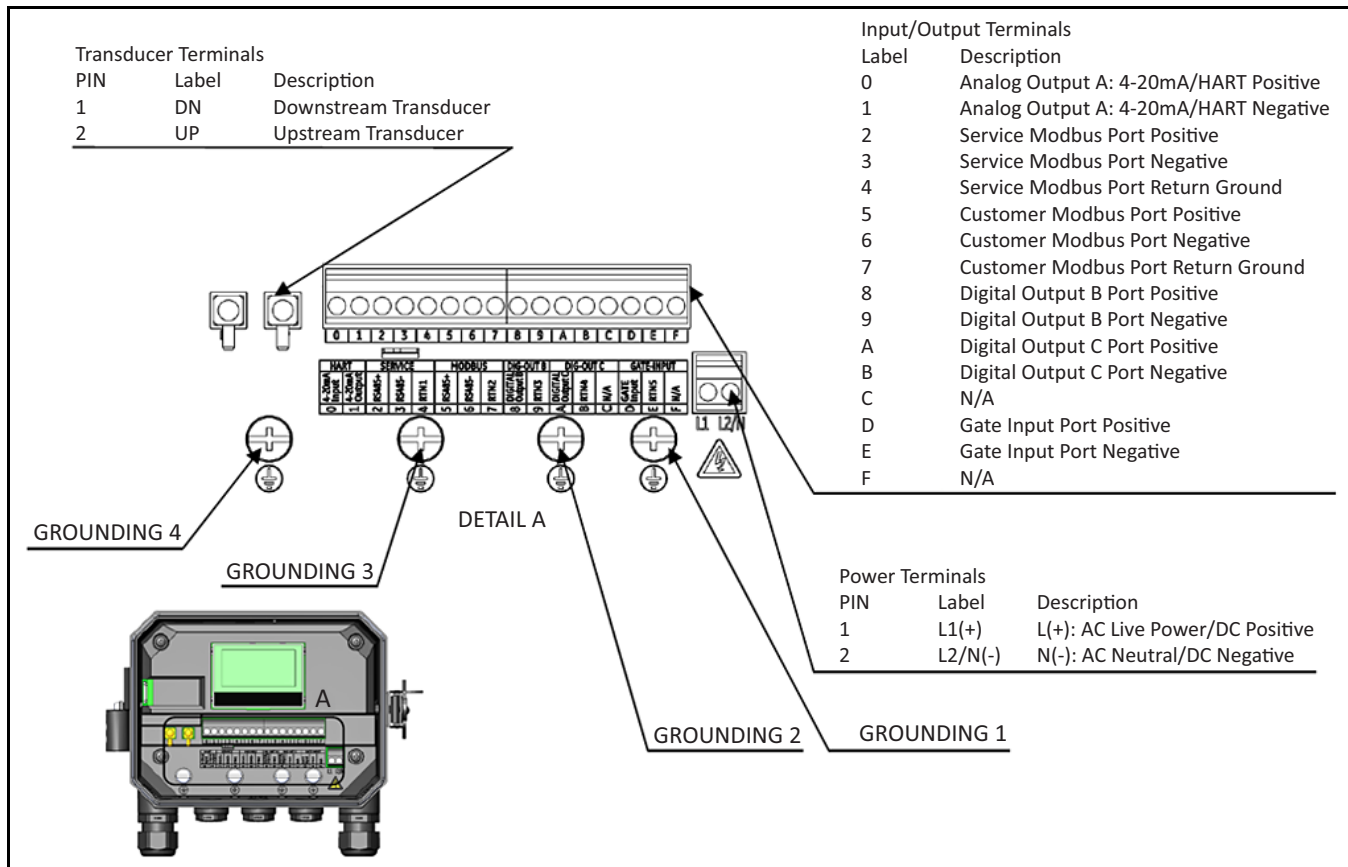
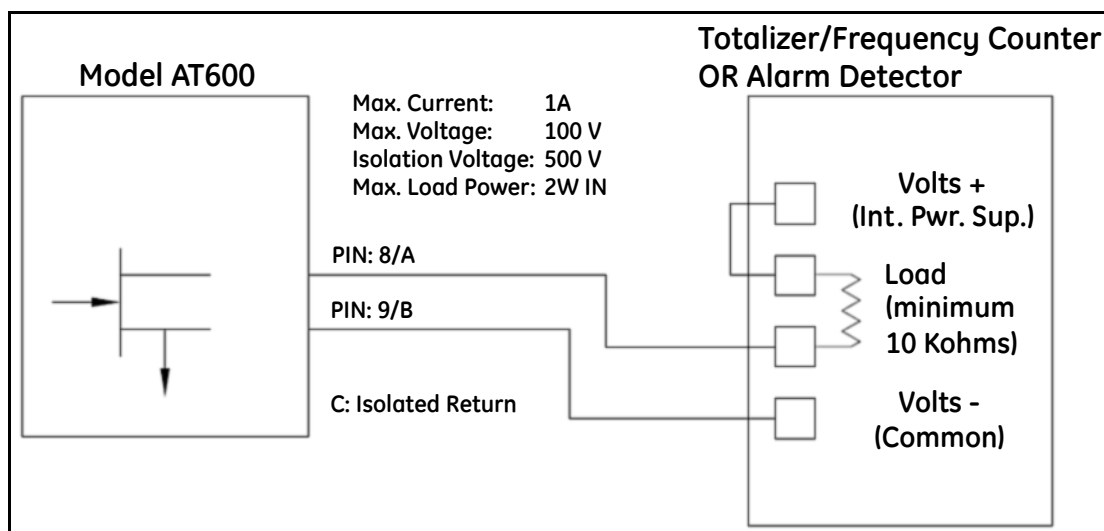

Figure 22: Wiring Diagram
Figure 27: Totalizer/Frequency/Alarm Output Wiring
2. Wire power and transducer cables to the AT600; refer to Figure 22 on page 16.
This section contains instruction for making all the necessary electrical connections to the AT600 flowmeter. Refer to Figure 22 below for the complete wiring diagram of the unit.
Refer to Figure 22 on page 16 to locate the terminal block and connect the line power as follows:
2. Connect the ground lead to the internal ground connection (GROUNDING 1) located on the bottom panel of the enclosure (See Figure 22).
3. Connect the neutral or line lead (or the negative - DC power lead) to L2/N(-) and the line power lead (or the positive +DC power lead) to L1(+) as shown in Figure 22 on page 16.
2. Connect the cable connector with yellow “DN” jacket on the cable to DN and connect cable connector with white “UP” jacket on the cable to UP as shown in Figure 22 on page 16. Then, secure the cable gland.
3. Refer to Figure 22 on page 16 for the location of terminal block I/O and wire the terminal block as shown. Secure the cable clamp.
To wiring Modbus RS485 serial port, refer to Figure 22 on page 16 and complete the following steps:
3. Feed one end of the cable through the gland hole, wire it to terminal block and secure the cable gland as shown in Figure 22 on page 16.
Each totalizer/frequency/alarm output requires two wires. Wire this terminal block in accordance with the pin number assignments shown in Figure 27 below. Figure 22 shows sample wiring diagrams of totalizer/frequency/alarm output circuit.